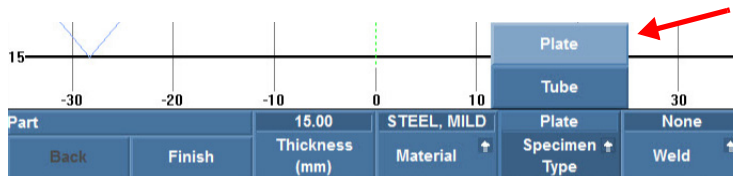

Figure 2-1 Selecting Plate in the Specimen Type field
- Select **Plate** in the **Specimen Type** parameter field (see Figure 2-1 on page 20).